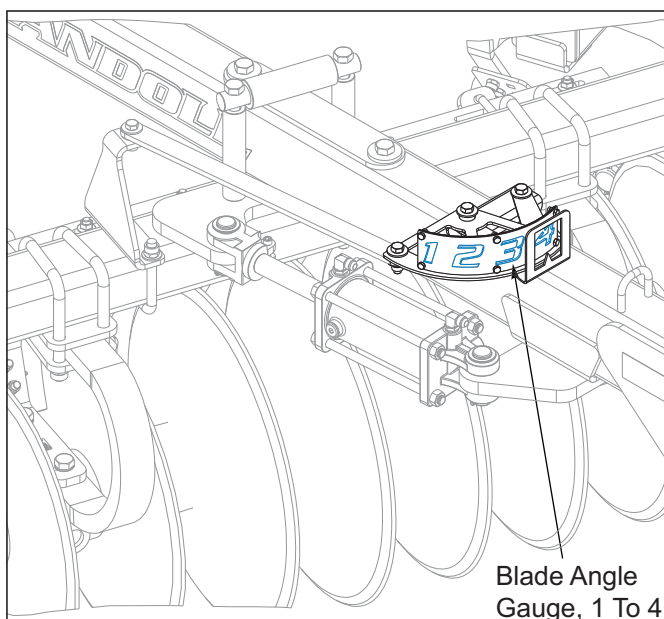

Figure 4-7: Blade Angle Gauge
5. The blade angle is intended to be changed while being pulled through the field. The more aggressive the angle, the more horsepower it will take to pull the Filloll. The blade angle may be adjusted from 10-18 degrees and the blade angle gauge is located on the right gangbar assembly *See Figure 4-7*. The blade angle gauge goes from 1 to 4, with 1 being the least aggressive angle and 4 being the most aggressive angle.
2. The 1911 can be operated so that it closes and levels pivot irrigation tracks, fills and levels implement ruts in the field, and levels small washouts or other erosion issues. Initially set the blade angle gauge at 1, *See Figure 4-7* and operate the machine level at the desired working depth. Both the blade angle and fore/aft levelness can be adjusted on-the-go to achieve the desired finish. Recommended operating speed to be 4-8 mph.